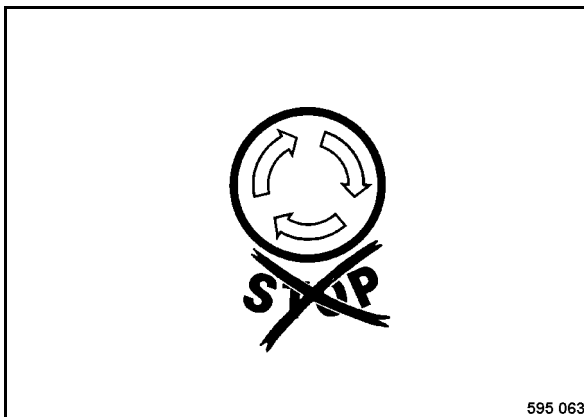

Fig. 28
- Check, whether the emergency stop switch (Fig. 28) is unlocked.